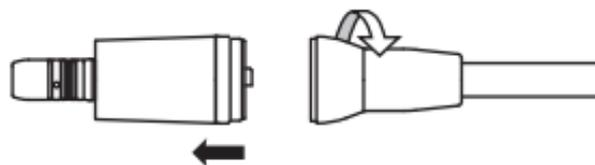

Figure 8.
- 7 Remove the motor from the motor cord (Figure 8.).